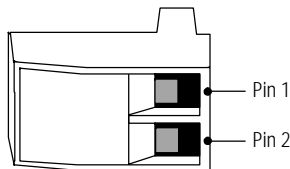

Figure 21. REPO Connector
2. Connect dry isolated normally-open contacts across the REPO device to pin 1 and pin 2 (see Figure 21). Use stranded, non-shielded wiring, size #22 through #18.